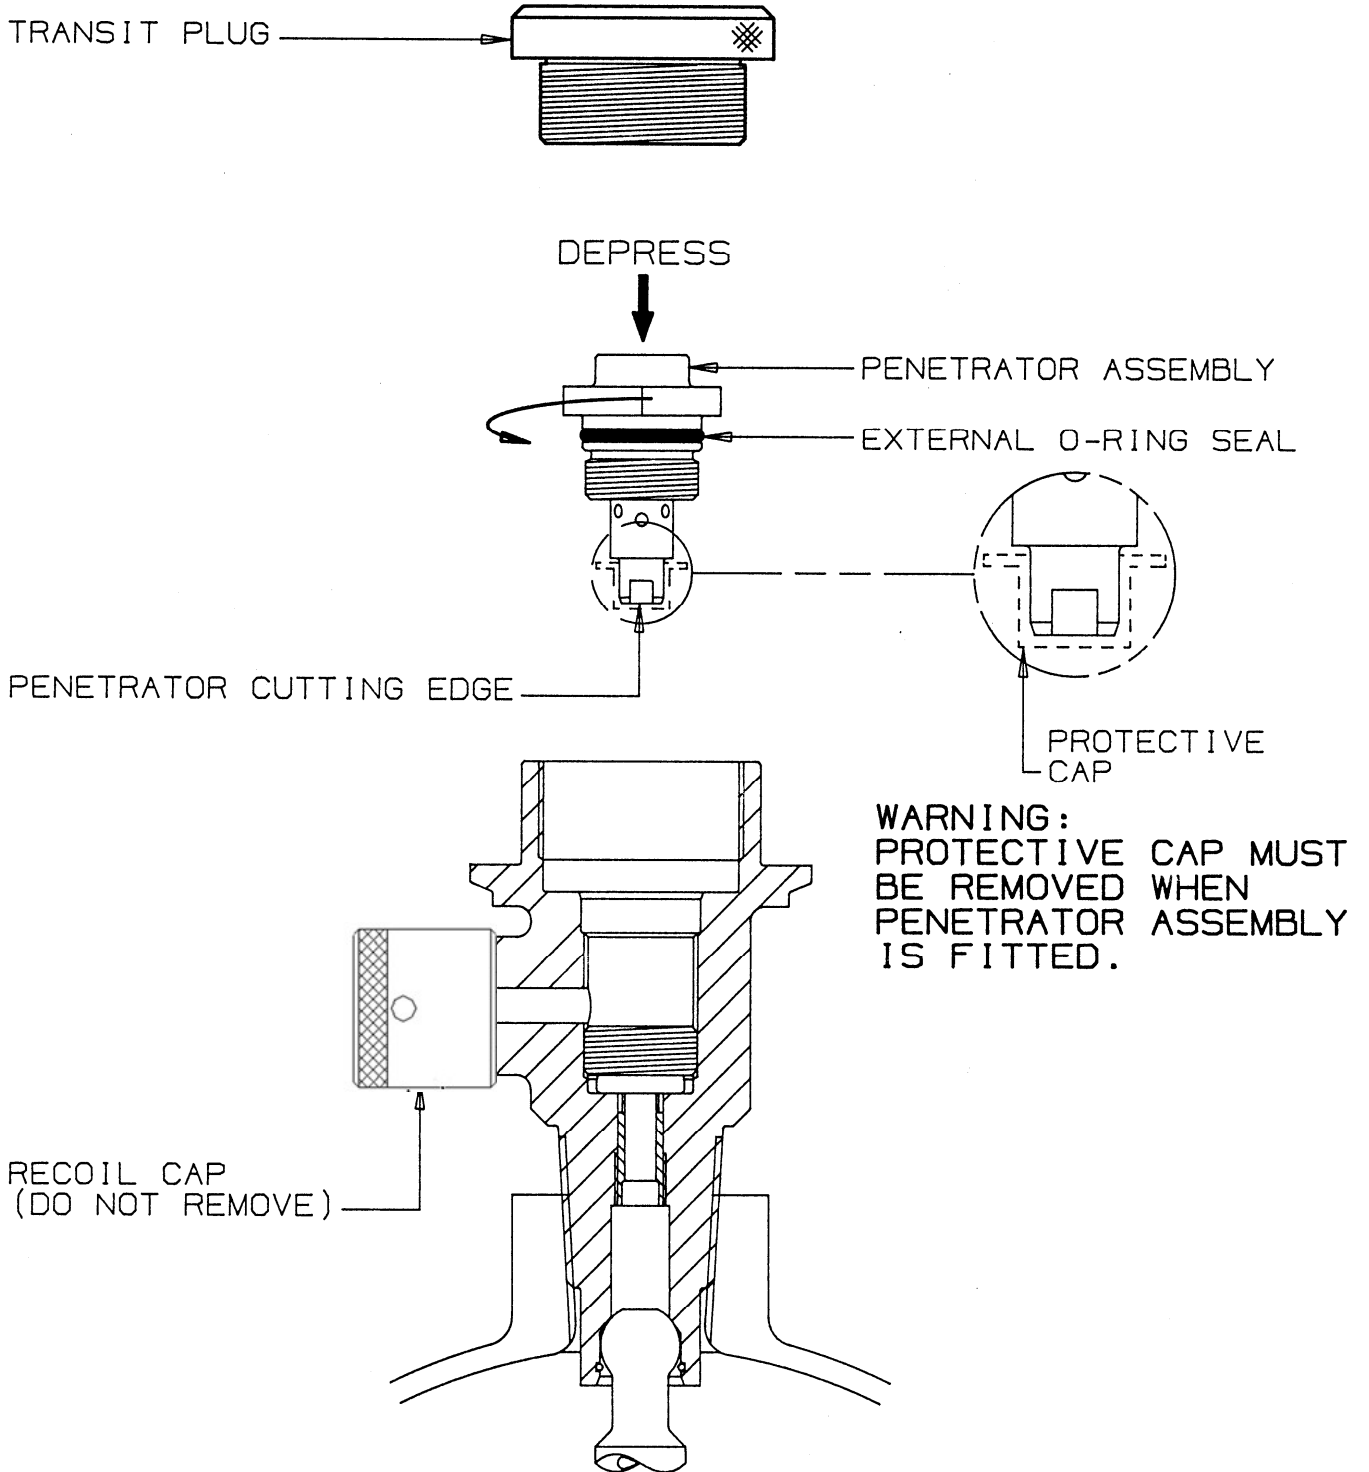

Fig. 7.1
Fig 7.1 refers
3. Visually inspect penetrator blade to ensure there is no damage to cutting edge. Plug Gauge (item 4.4- see page 6) must freely enter and move in bore of penetrator.
4. Depress penetrator shaft (in direction of arrow in fig. 7.1) to ensure freedom of movement.